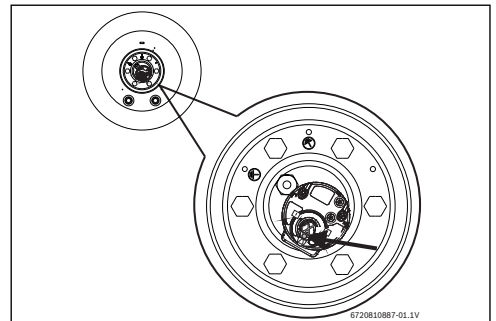

Fig. 16 Reset button
- ▶ Push down the button (fig. 16).